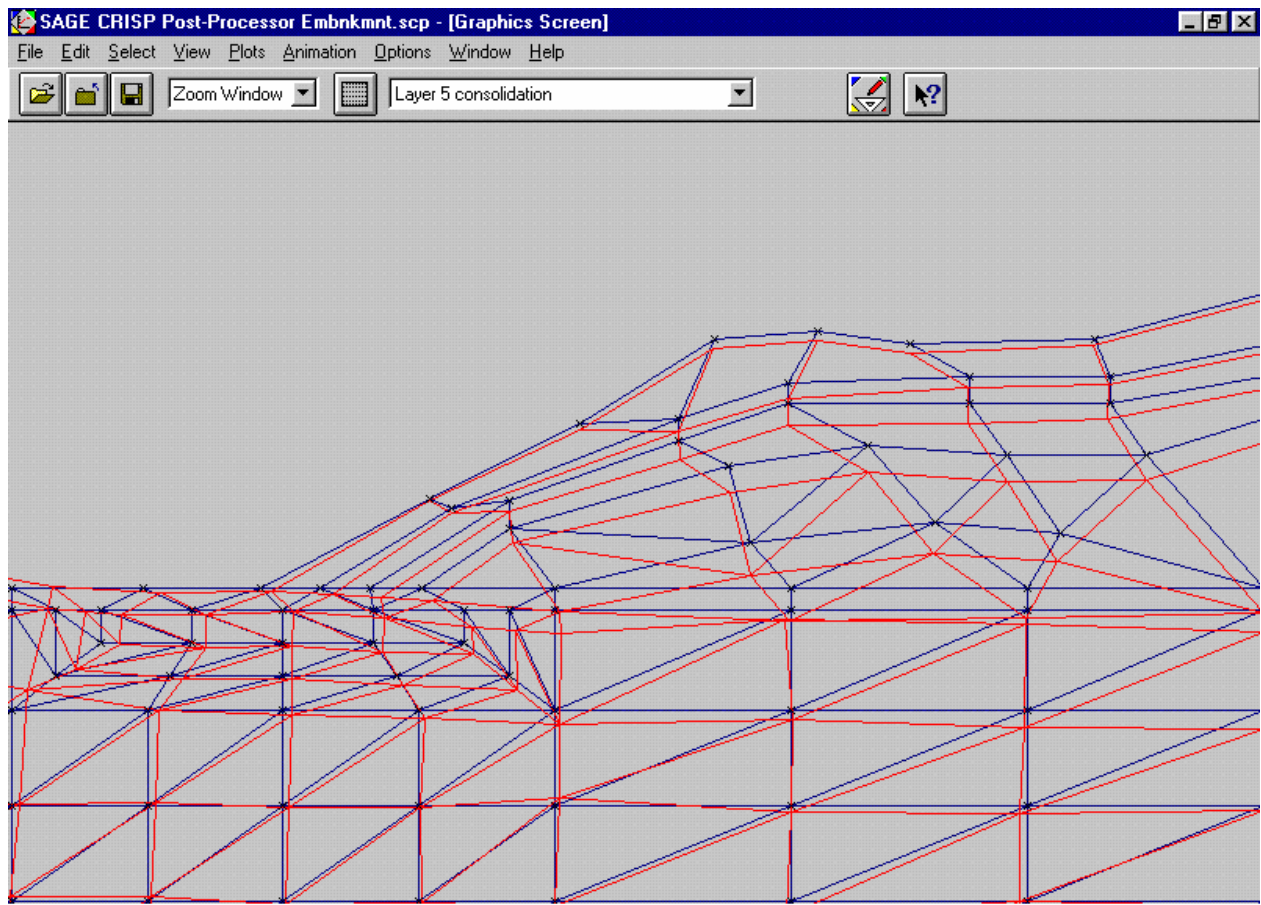

Figure 6-37: Deformed Mesh at Collapse
- Step 6** Click on **OK** to exit, once you have finished. Figure 6-37 shows the displaced mesh plot in Graphics Window (a zoom window has been executed to show more clearly the region beneath the embankment).